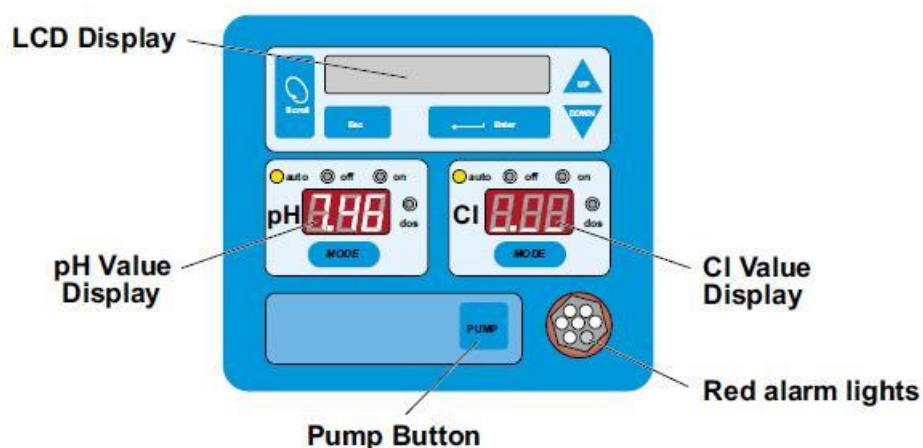

Figure 17: HYDROGUARD Control Panel
9. Locate the red LED **CI** and **pH** displays in the HYDROGUARD control panel (Figure 17). A number should appear in both displays.